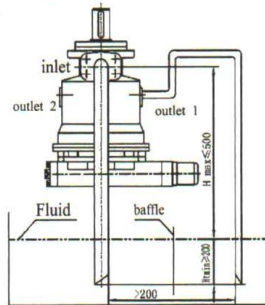

Fig.2
b) If the minimum fluid level is below the pump mounting face pipe port "outlet 1" and "inlet" according to Fig 2
Before installation fill the pump housing, keeping it in a horizontal position. For mounting above reservoir see Fig. 2.